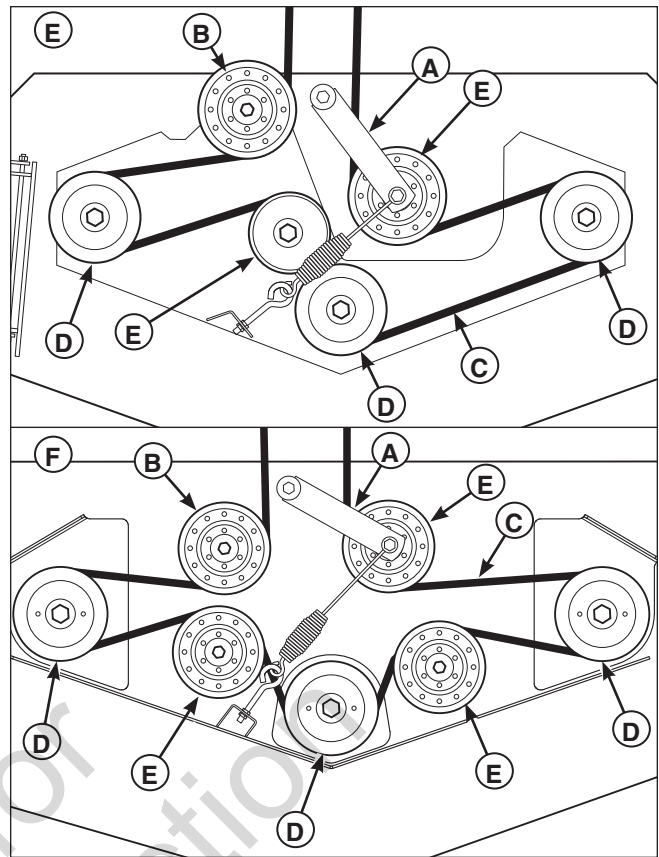

Figure 29. Mower Deck Belt Routing
3. Using a 3/4" combination wrench, carefully rotate the idler arm (A, Figure 29) **counter-clockwise**, which will relieve the tension on the belt exerted from the idler arm.
4. Slide the mower drive belt over the edge of the rear stationary idler pulley (B). Carefully release the tension on the idler arm.